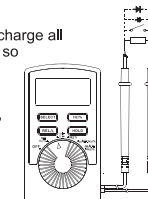

Figure 3
3. Measuring Resistance(See Figure 3)